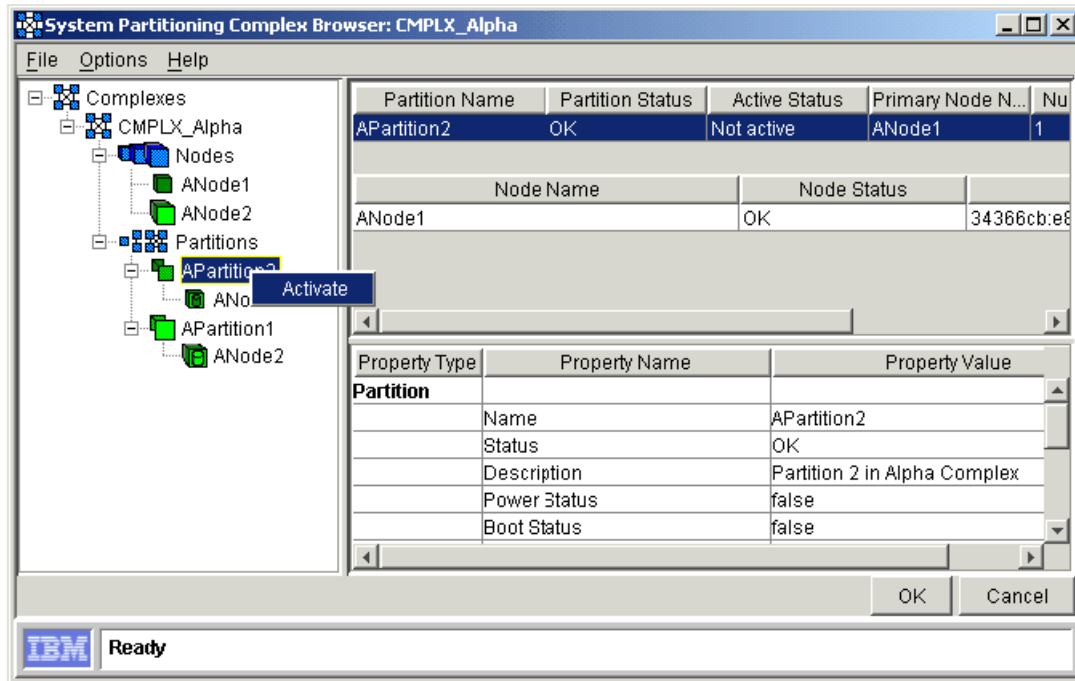

Figure 4. System Partition Manager
- **System Partition Manager** — System Partition Manager provides a graphical interface for x440 users to create hardware partitions (initially static partitions, with other types to come in time). It allows an administrator to configure a specific server (while it is offline) from a remote system, prior to starting the OS. (Figure 4 shows an early version of System Partition Manager.) System Partition Manager uses the network link to the onboard systems management processor or adapter to establish the relationships among nodes. These relationships are maintained in a persistent database and can be recalled and activated at any time using the graphical interface. Because System Partition Manager integrates with IBM Director, it is part of a common management infrastructure that is used to manage a running partition.